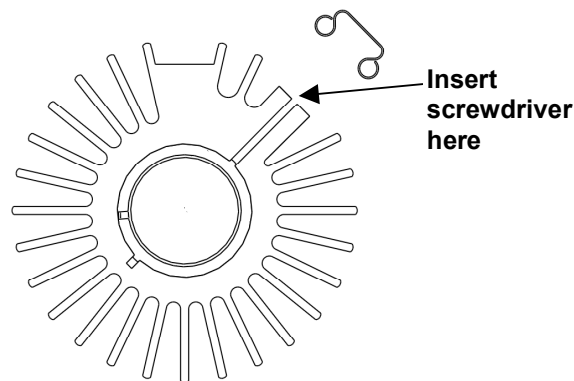

Figure 4. Heat sink.
3. Pry one of the retaining clips off one of the heat sinks and remove the heat sink. If the heat sink does not come off the bulb, insert a flat screw driver in the side slit of the heat sink and widen the gap (Figure 4) to remove the bulb. Repeat with the second heat sink.